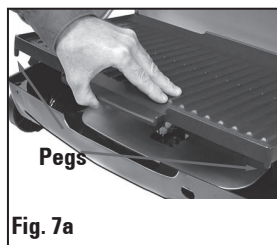
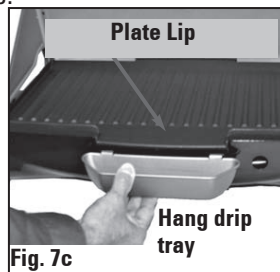

Fig. 7a
Fig. 7c
STEP 4. Lift reversible plate and remove any loose parts stored inside. Lay regulator assembly aside for a future step. Always ensure the pegs on the underside of the grill plate are inserted into the locating holes in the front corners of the grill (**FIG 7a-b**). The lip on the grill plate will be positioned to drain into the drip tray. To change the grilling surface flip the plate over and reorient the plate so the pegs insert into the locating holes. Hang the drip tray on the wide notch in the front of the grill just under the lip of the grill plate (**FIG 7c**).